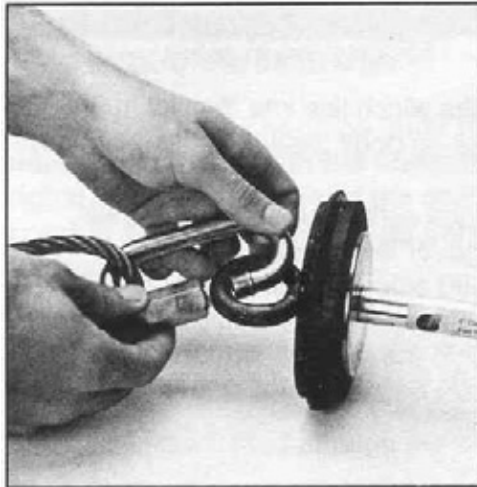

FIGURE 2: INSERT MISSILE INTO CONDUIT
4. Insert the missile into the conduit and push into the conduit approximately one arms length. (See Fig. 2)